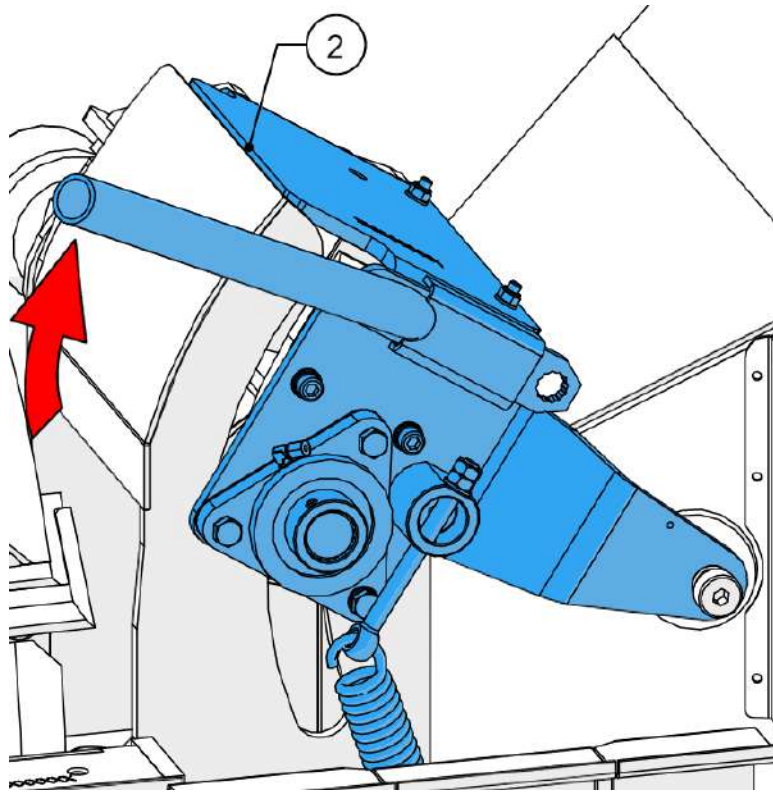

Figure 42 - Raising the top feed roller housing
12. 2x people are needed for this step. One person lifts the top feed roller (2, Figure 42) to the fully open position while the other person, wearing protective gloves and using a piece of wood, carefully clears the blockage from inside the feed chamber.